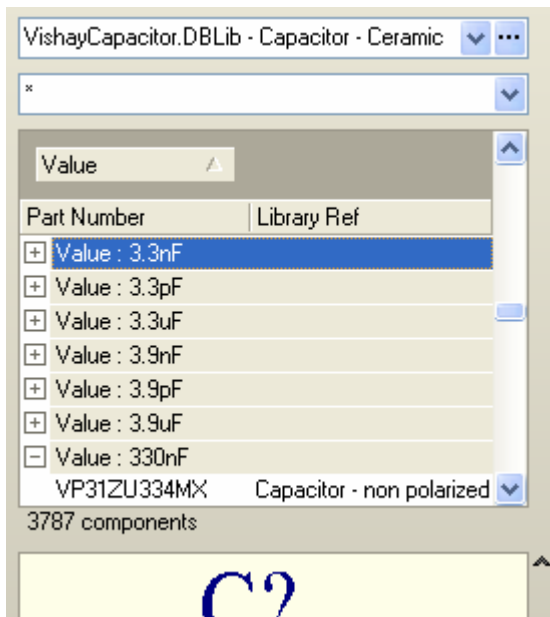

Figure 14. Using a database library and the sort by column feature to sort by Value.
- You can control what columns are displayed in the component or model lists, right-click and choose **Select Columns** to do this. Using this with database libraries is especially useful as there is the ability to sort by a particular column like shown in Figure 14. Database libraries are covered in more detail in the Advanced PCB training course.